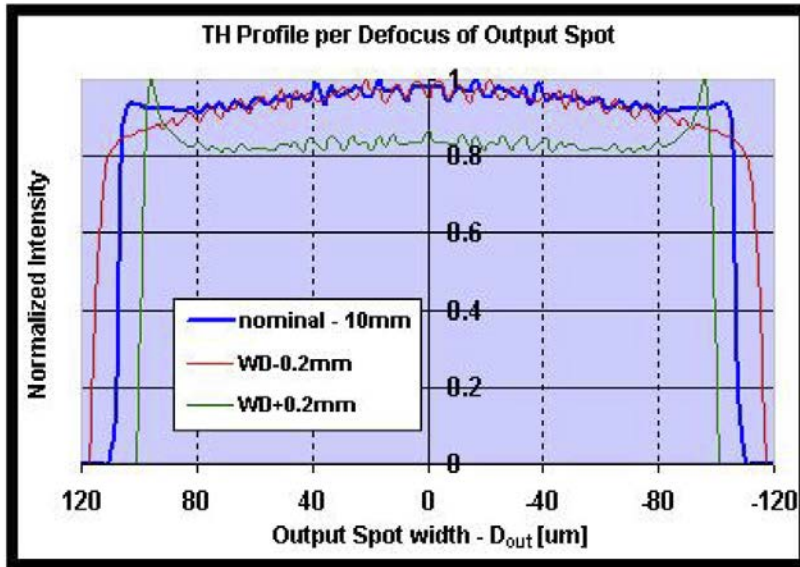

Fig. 5: Effect of Working Plane Defocus on TopHat Profile
**Interesting to note in fig.6, a very similar effect as in fig.5. There is clear parallel between too large beam size and extended defocus. The „dog ears“ effect is the same.